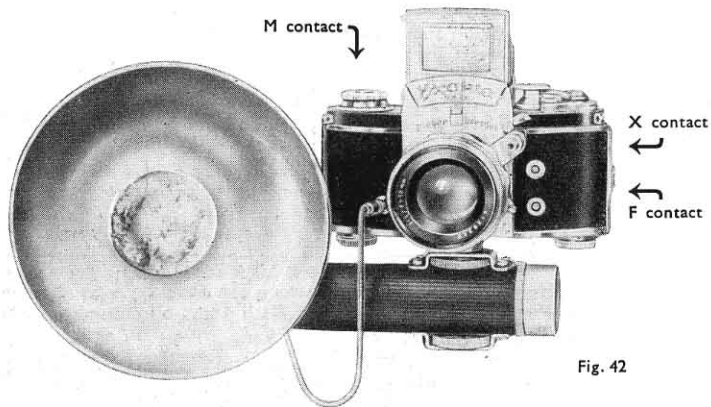

Fig. 42
If the exposed film is wound into a cartridge instead of onto the take-up spool rewinding is not necessary. As soon as the film is all used up and the film transport lever (6) cannot be moved any more, the film is cut off with the built-in knife (34). Loosen the knife release (35) by turning it to the left. It is fastened on one end of a thin bar, on the other end of which the cutting knife (34) is fixed. If you draw out the knife release (35) from the camera body (about 4 cm) (Fig. 42), the film cutter (34) crosses the film track and cuts off the film strip. Afterwards push the knob (35) back into the camera by turning it to the right. With two "blind" exposures the filmend is drawn into the
For best results with the flash-bulb synchronization, the **Ihagee flashgun** (Fig. 42) is available. It consists of a battery case serving as handle, flash lamp holder with spring locking device suited for all bulb sizes and all bases of flash bulbs, reflector, and connecting cord.